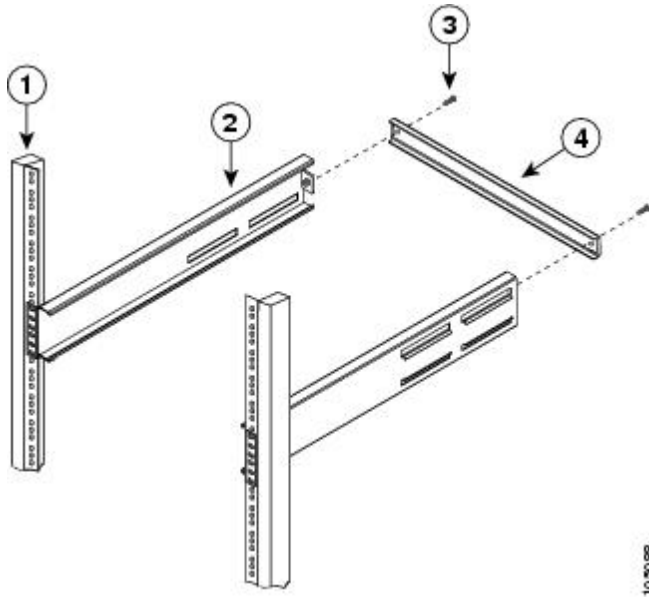

Figure 6. Installing the Shelf Bracket Kit into a Telco Rack
1. Position a shelf bracket inside a rack-mounting post as shown in Figure 6 and align the screw holes at the front of the shelf bracket with the holes in the rack-mounting post. Then, attach the shelf bracket to the rack-mounting post using a minimum of four 12-24 or 10-24 screws.
4. Attach the crossbar to the rear of the shelf brackets, as shown in Figure 6, using the 10-32 screws.